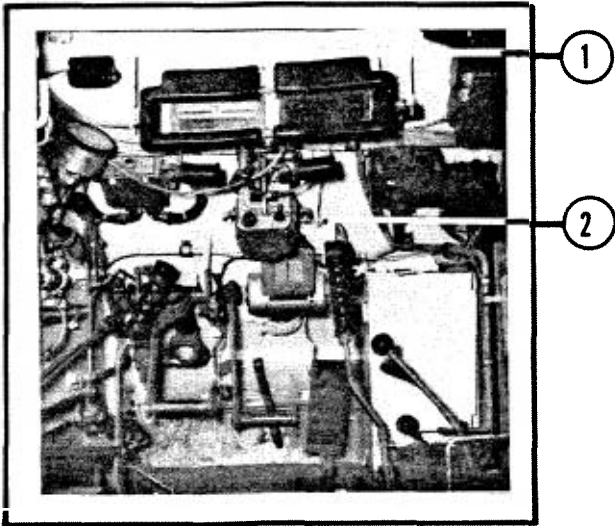
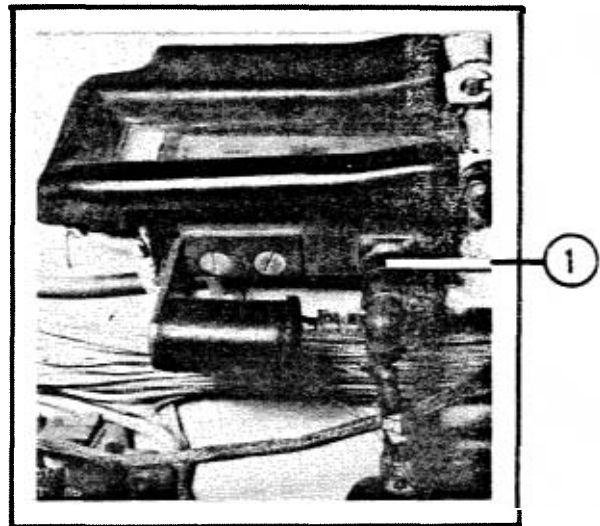
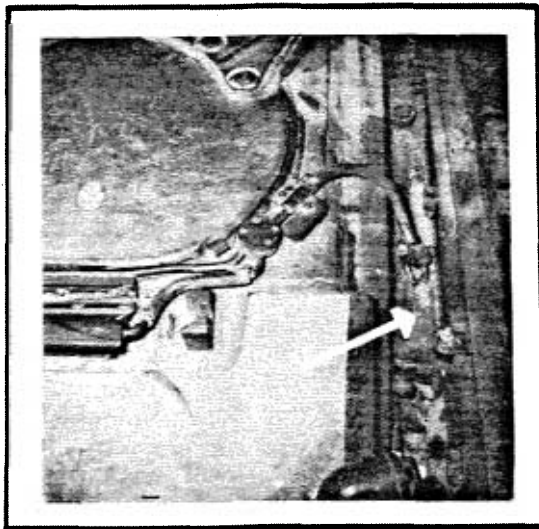
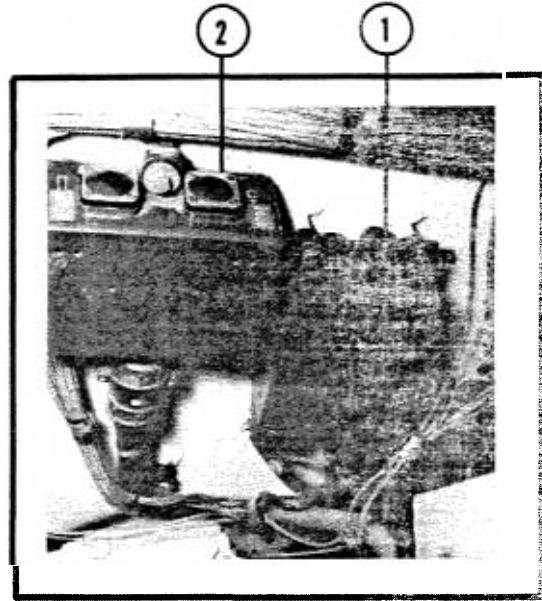

FIG. 2-14. DRIVER'S AREA
FIG. 2-15. VISION BLOCK
FIG. 2-16. VISION BLOCK
FIG. 2-21. HULL VENTILATOR
e. Vision Blocks (Fig. 2-14) The driver has 2 vision blocks to aid him when driving with his hatch closed. There are two defroster cables connected to the vision blocks (Fig. 2-15) that can defrost the blocks when turned on (Fig. 2-21). To remove the blocks, rotate the white mounting rod (Fig. 2-14) and pull down on the vision block handle. The vision blocks can be cleaned with compressed air and cleaning fluid from a reservoir (Fig. 2-16) by depressing the push button on the right lateral hand grip (Fig. 2-14).
k. KUV-3 Ventilator Control Box (Fig. 2-21) The KUV-3 ventilator control box under the driver's right vision block has 2 push buttons that turn the turret ventilator on or off. The button on the left starts the ventilator and the right button turns it off.